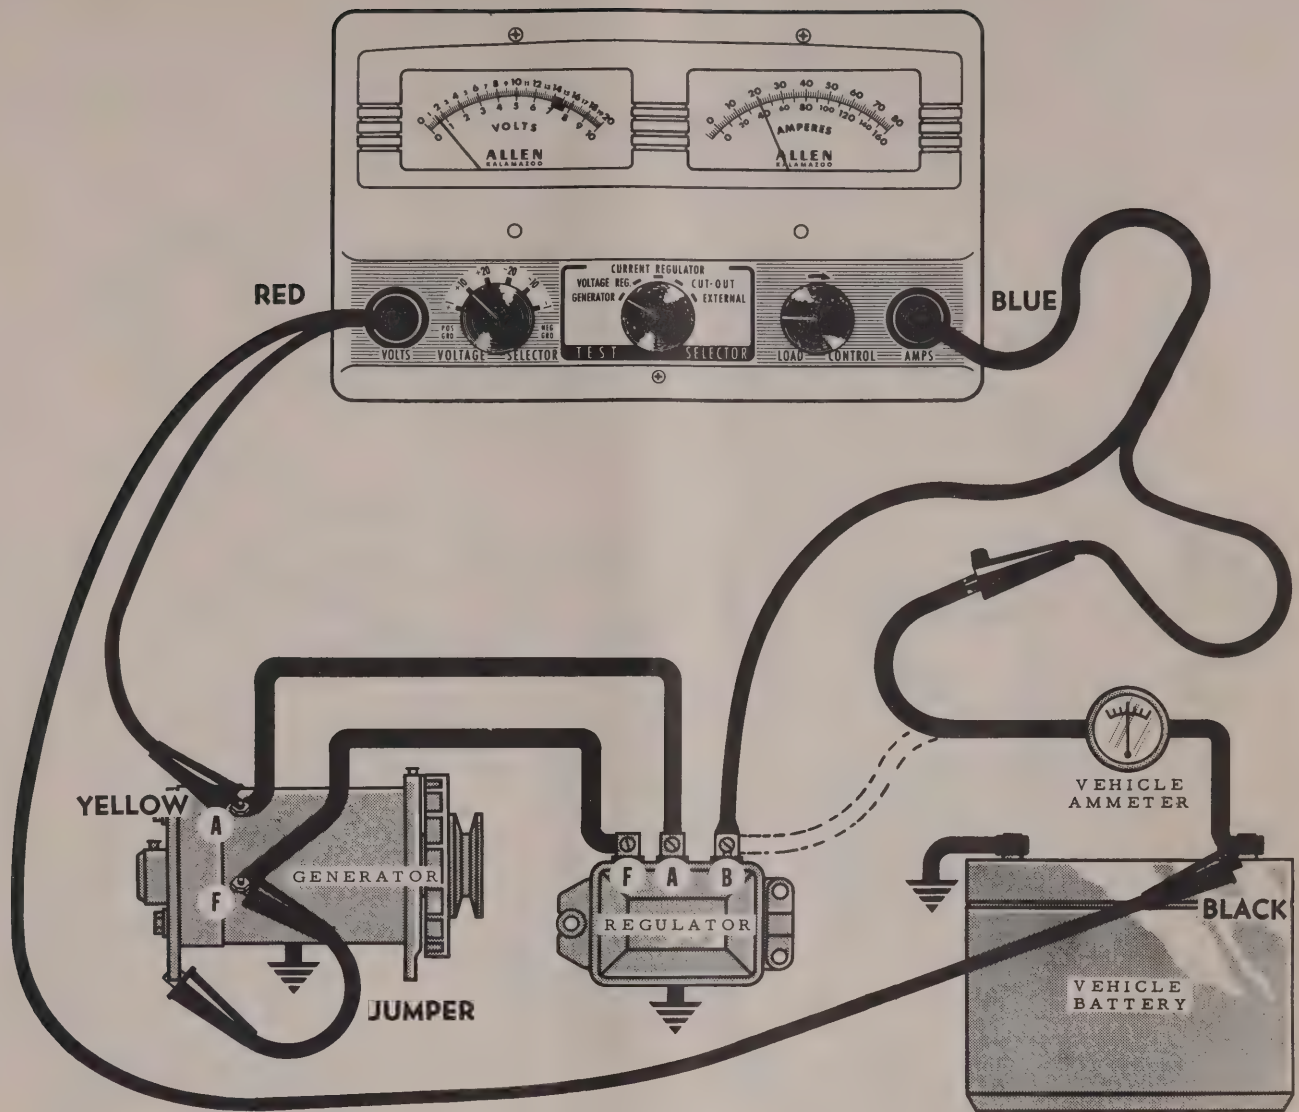

FIG. 3
2. Make connections as shown, Figure 3. Connections are the same as for generator output test, except the BLACK voltmeter clip is attached to the "HOT" battery post.